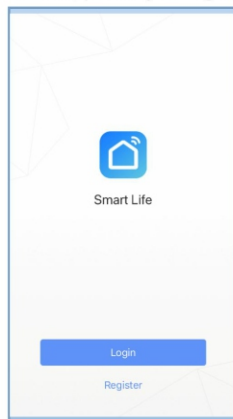

fig 2.2
- Press “register” button on the register page(fig2.2)